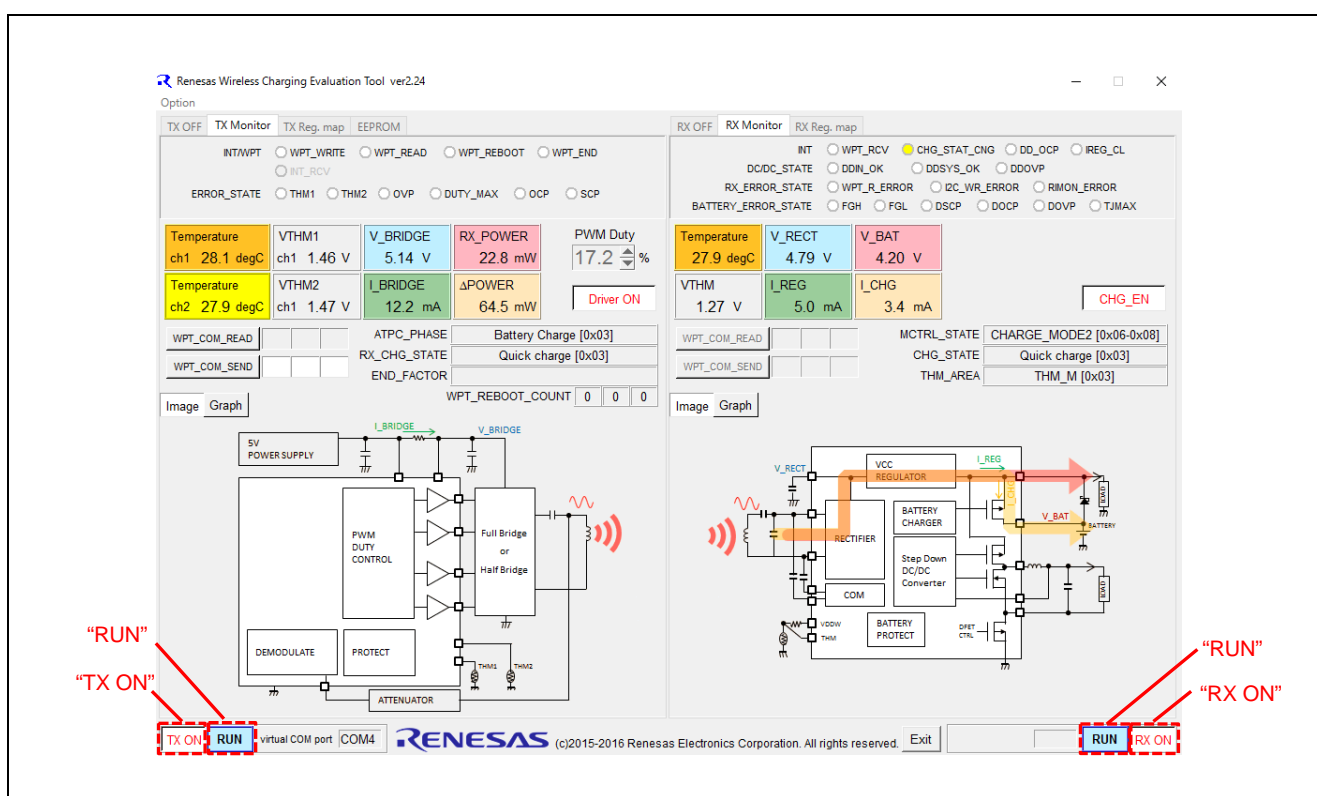

Figure 16 Control tool window at ATPC Mode
- (1) Turn on the SW13 of RX board. LED4 is lightened for showing operation mode change to discharge mode from shut down mode at RAA457100GBM. LED3 is also lightened for showing DCDC converter operation.
- (2) Turn on the SW14 of TX board. DC 5V is supplied to TX board and LED8 is lightened.
- (3) Click the “TX ON” and the “RX ON” on tool window. Monitor for evaluation is displayed as Figure 16.
- (4) Click the “RUN” in TX side and RX side on tool window.